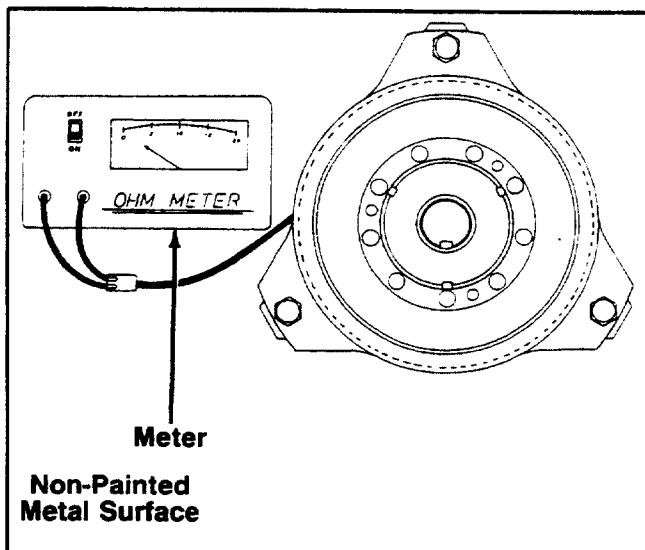

FIGURE 1.
4. Connect one meter lead wire to the clutch wire. See figure 1.